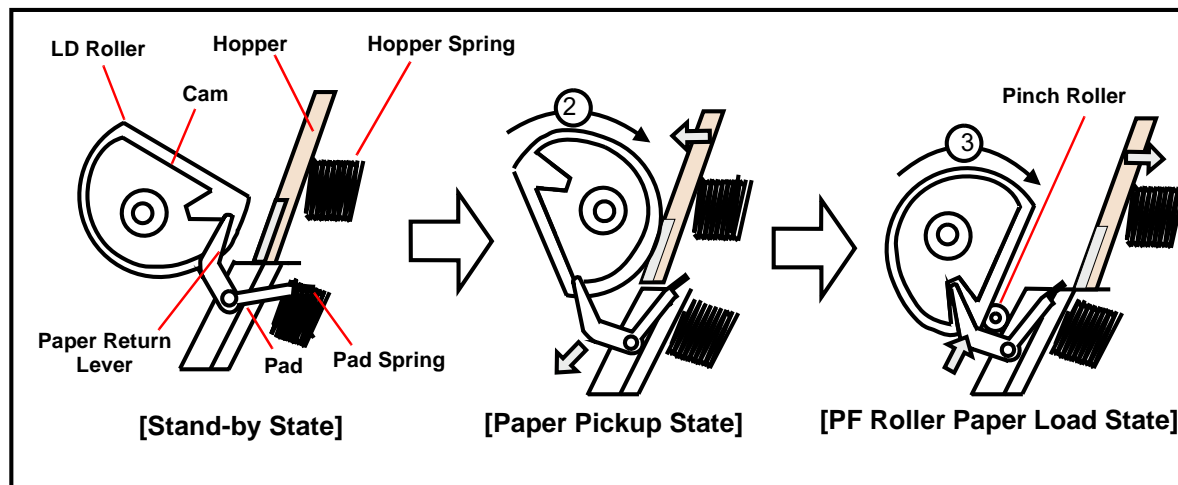

Figure 2-10. Multiple Paper Loading Prevention Mechanism (right side view)
1. When the printer power is turned on, the PF motor rotates counterclockwise to detect ASF home position. Then the motor rotates clockwise specified steps to set the LD roller and paper turn lever in place. (See "Standby State" in Figure 2-10.)
2. When the paper loading signal is sent from the PC and the Load/Eject button is pressed, PF motor turns counterclockwise to let the LD roller load paper. (See "Paper Pick Up State" in Figure 2-10.)
3. When the paper is transported to the PF roller, the LD roller stops where it loses friction. (See "PF Roller Paper Feed State" in Figure 2-10.)
4. When the next print signal is sent or Load/Eject button is pressed, the PF motor rotates clockwise specified steps to set the LD roller and the paper return lever in place. (See "Standby State" in Figure 2-10.)